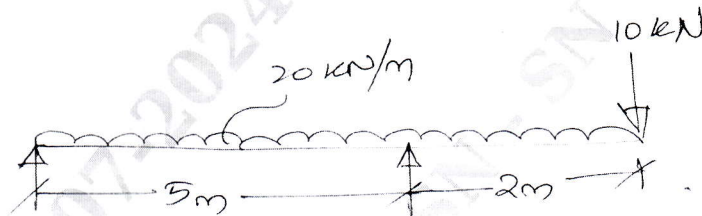

Fig.Q8(b)
- b. Draw SFD and BMD for the beam shown in Fig.Q8(b) indicating salient values. Locate the point of contra-flexure if it exists and maximum positive and negative bending moments.